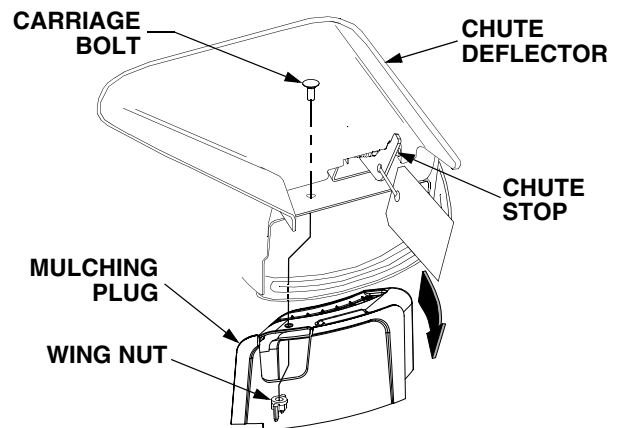

Figure 2
1. While holding the discharge chute up, rotate the chute stop clockwise and remove. Discard the chute stop. Refer to Figure 2.
2. Lift and hold the chute deflector upward and remove the wing nut and carriage bolt securing the mulching plug to the deck. Withdraw the plug from the discharge opening of the deck and lower the chute deflector. See Figure 2.